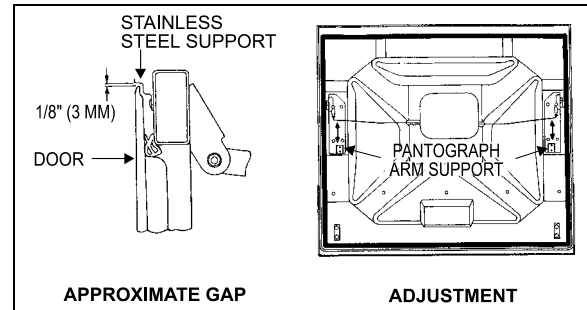

FIGURE 54: BAGGAGE COMPARTMENT DOOR 18064
- Unscrew and remove both striker pins. Loosen bolts retaining door to pantograph and balance arm supports. With door closed, adjust height so the top of the door fits flush with the adjacent doors. Then, complete tightening the four bolts retaining door to each pantograph arm support. A gap of $1/8"$ (3 mm) between the top of the door and the stainless steel support is given as a guide (Fig. 54).